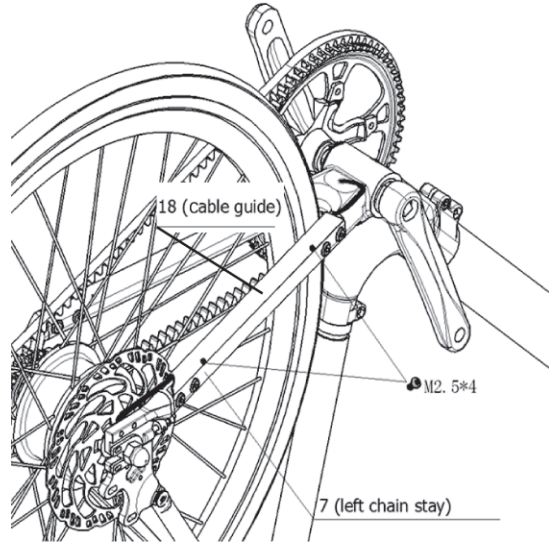

Figure 37-1.
c. Use Part 18 to cover the motor cable, then use a screwdriver to lock the two M2.5*4 mm bolts on Part 7, as shown in Figure 37-1.